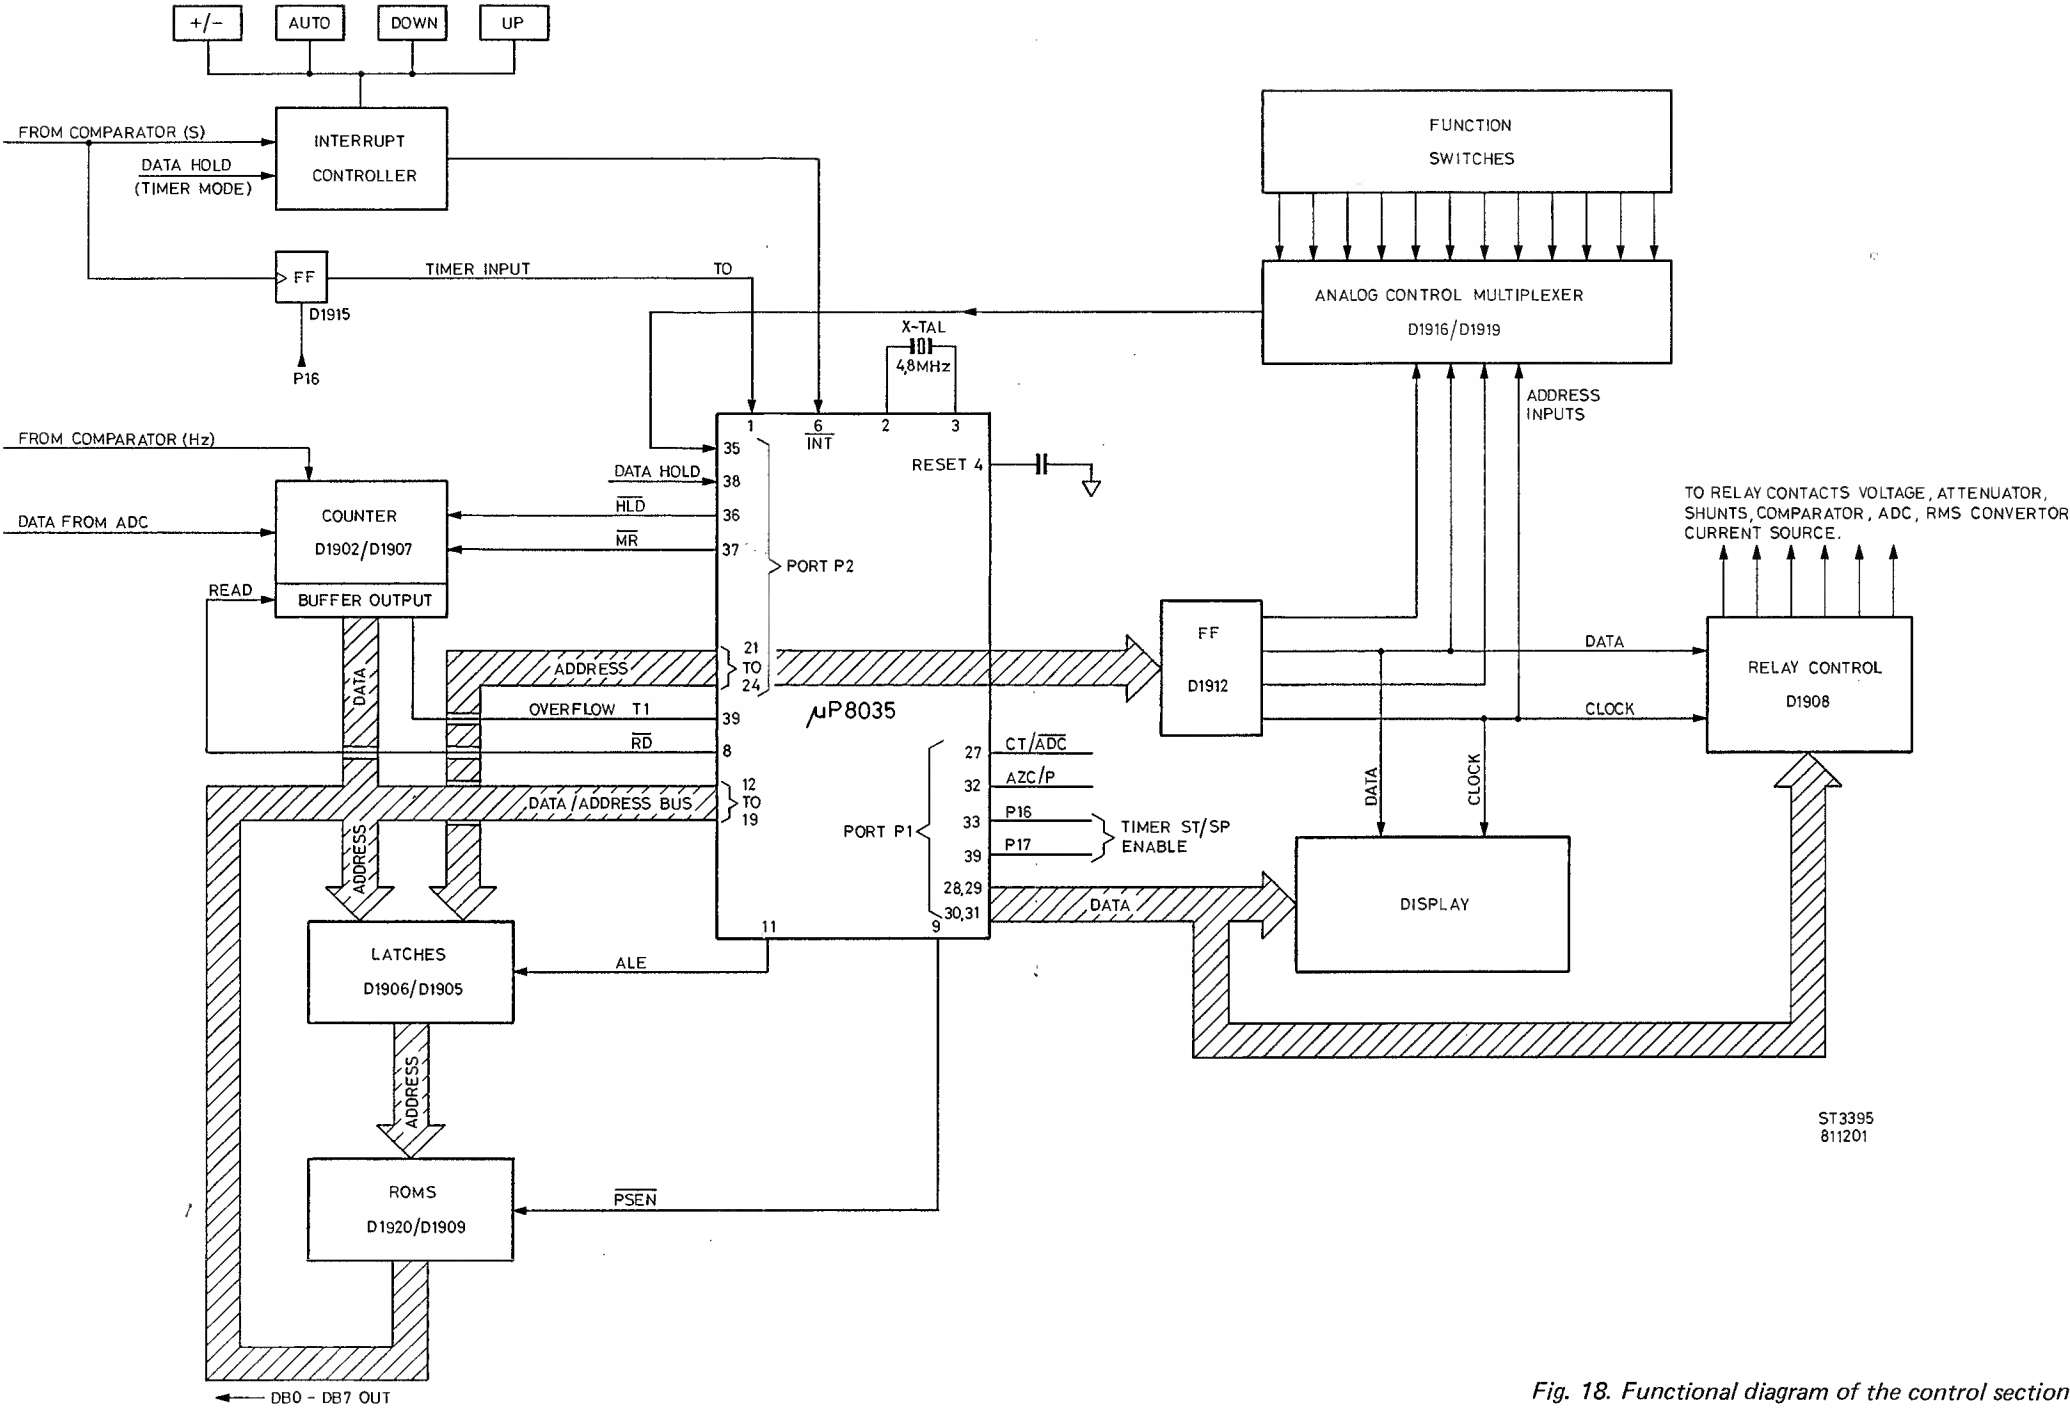

Fig. 18. Functional diagram of the control section
1.3.5. Control section (Refer to Fig. 18.)